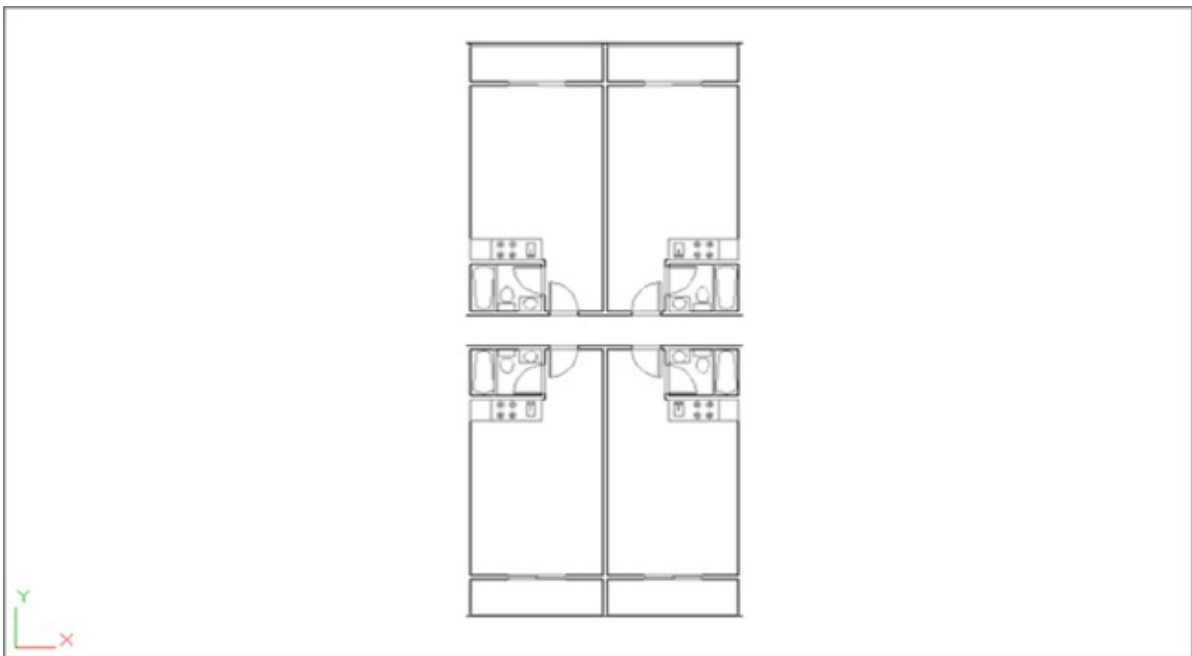

FIGURE 7.2 The unit plan, duplicated four times
1. Click Zoom Extents on the Navigation bar's Zoom flyout to get a view of the four plans, or you can type **Z↵E↵**. The Extents option forces the entire drawing to fill the screen at the center of the display area. Your drawing will look like Figure 7.2.